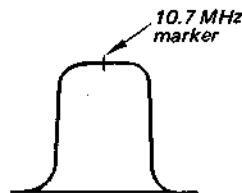

Fig. 2-3. Response curve
2. Turn the core of fm i-f transformer (IFT F1, IFT F2, IFT F3) and discriminator transformer (IFT F4) to obtain the maximum amplitude response curve shown in Fig. 2-3.